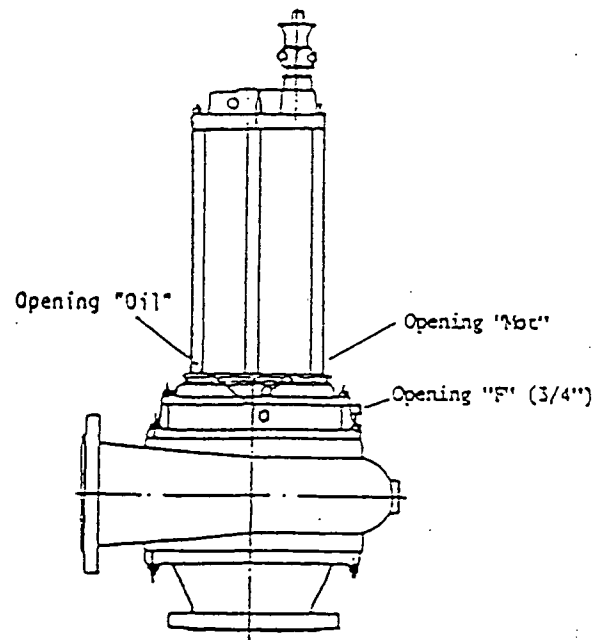

Fig. 7
This type (Fig. 7) transfers motor heat directly through the stator housing to the surrounding ambient liquid.
KEY FOR SYMBOLS ON FIG. 7:
Stand pump vertically on its suction flange. Remove plug "MOT" (see Fig. 7,8 or 9) with copper washer (536) from stator housing so that any liquid can run out. Do the following repairs according to what comes out of the stator housings:
Connect source of dry air (from air compressor or bicycle hand pump) to opening left by removal of plug "Mot.". (Fig. 7). Air pressure should be a maximum of 0.5 bar (7 psi). Motor should then be totally submerged in a test tank.